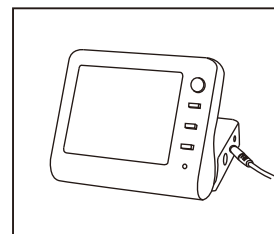

Fig.4
- 2) Connect the charger cable to the instrument. (Fig.4)